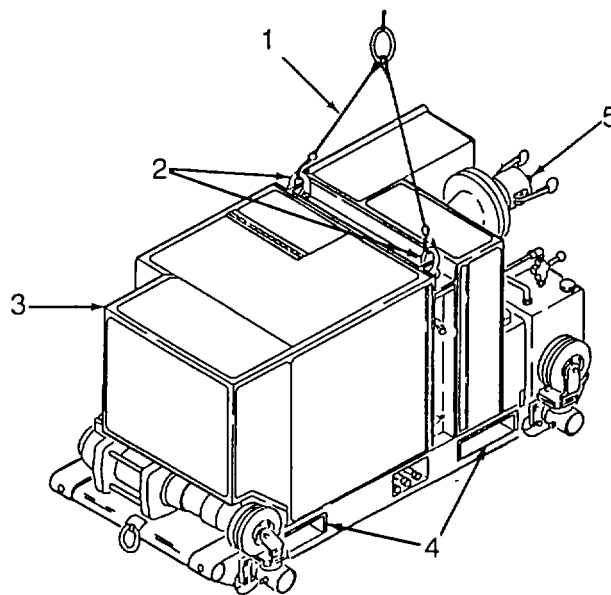

Figure 2-11. Sling and Forklift Positioning (Movement)
(13) Sling positioning (wheels up). Refer to Figure 2-11.
(14) Forklift positioning (wheels up or down). Refer to Figure 2-11.